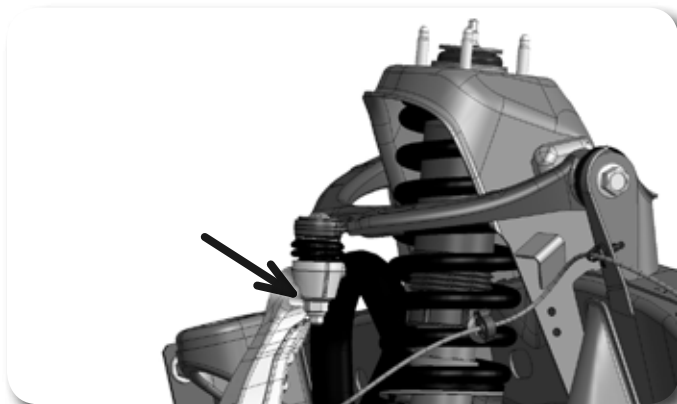

Figure 5
6. Remove the upper ball joint nut and thread it on until flush with the end of the ball joint. Gently strike the end of the ball joint to dislodge it from the knuckle, it typically does not take much force. Avoid hitting the aluminum knuckle. Disconnect the ball joint and allow the knuckle to swing rearward out of the way. **Figure 5**